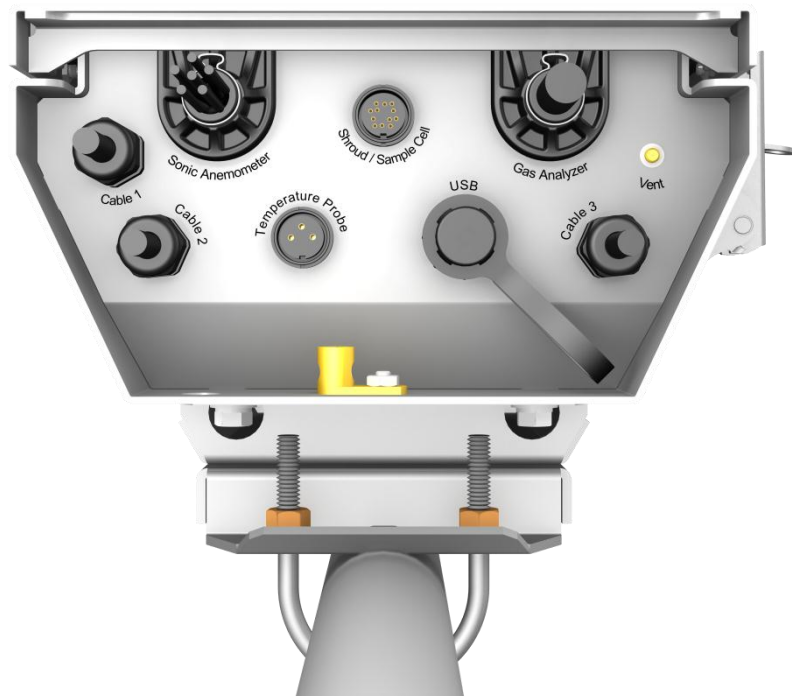

Figure 6-6. Base of EC100 enclosure
3. Connect the IRGASON temperature probe. Unscrew the temperature connector cover, which is found on the base of the EC100 enclosure (see Figure 6-6). Insert the 3-prong probe connector into the female connector on the enclosure and screw it firmly in place. The IRGASON temperature probe cable is approximately 3 metres in length.